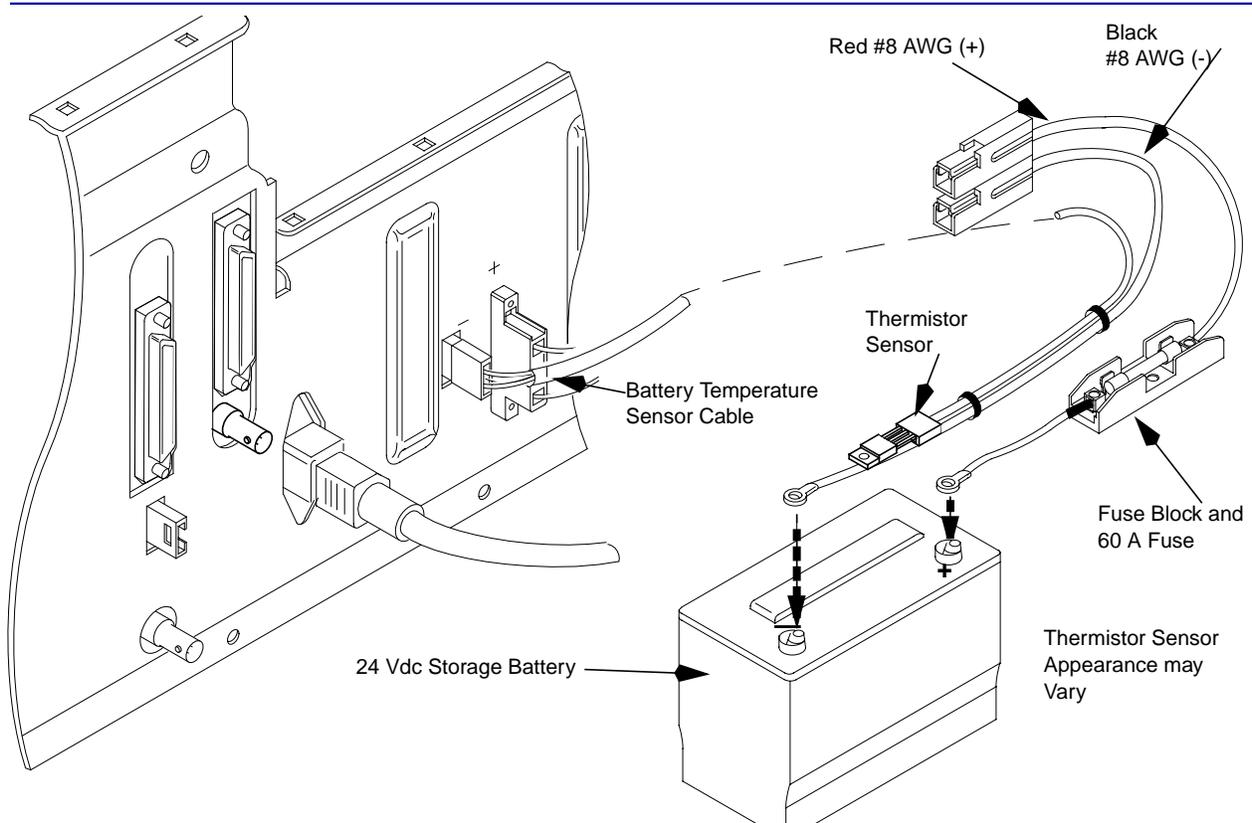

Figure 5-13: Battery Temperature Sensor
1. Connect the wire with the thermistor sensor (black wire) to the negative pole of a single battery or the first battery in the battery deck (see Figure 5-13).